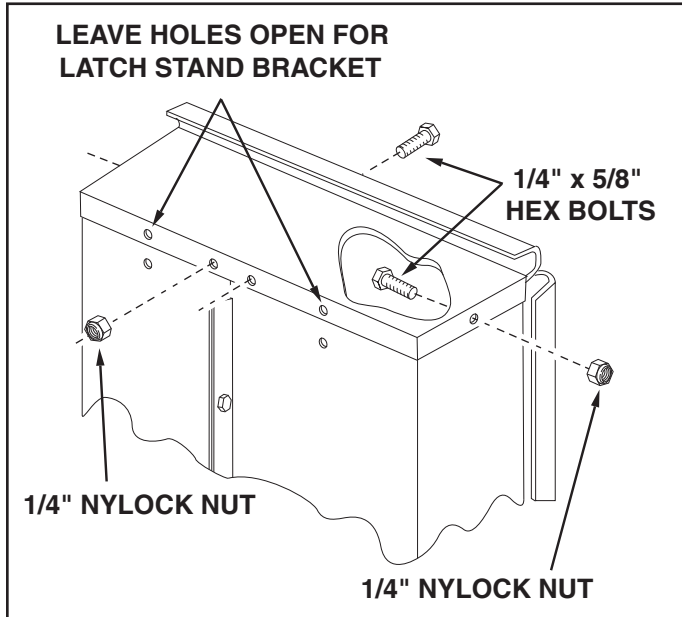

FIGURE 5
9. Assemble the front panel over the end of the cart using four 1/4" x 5/8" hex bolts and 1/4" nylock nuts as shown in figure 5. Leave two holes shown in figure 5 empty in the bottom of the panel. Pull the cart body halves together and **tighten** the two bolts in the bottom of the front panel, then **tighten** the bolt in each side.